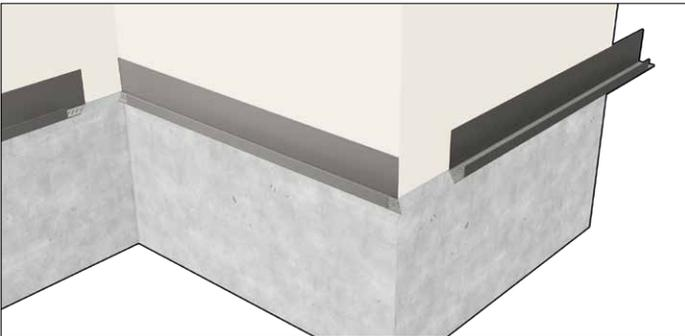

Figure 16.2
2. Miter at inside and outside corners. (Figure 16.2)